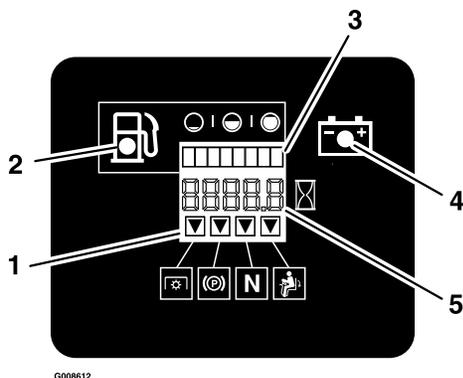

Figure 8
When the motion control levers are in the neutral position, the LCD indicator appears in the message display on the RH console (see Figure 8).
**Note:** The LCD indicator appears in the message display on the RH console when the park brake is engaged (see Figure 8).
Located on the right console in the message display (see Figure 6 and Figure 8).
The LCD indicator will appear when the PTO switch is disengaged (see Figure 8).